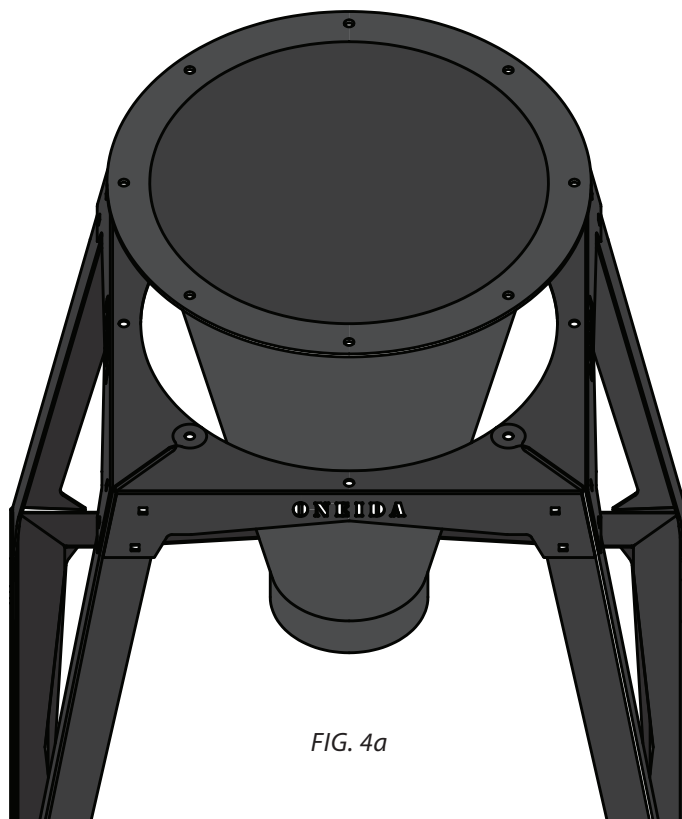
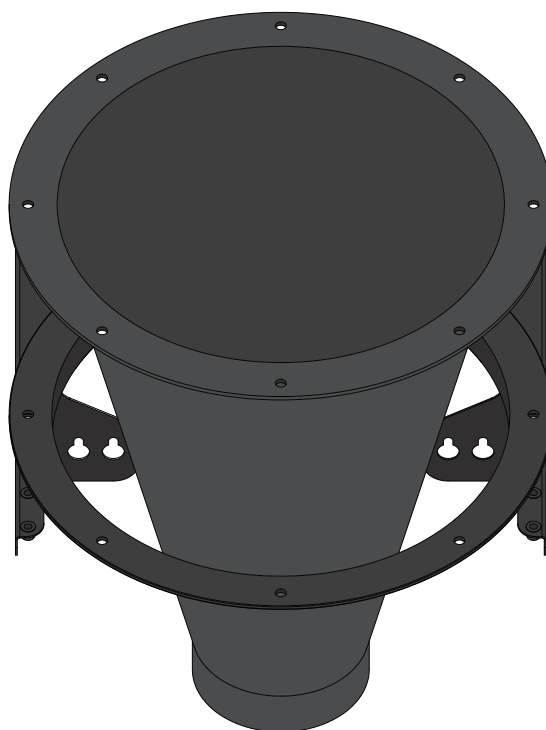

FIG. 4a
FIG. 4b
- 4 Lift the Cone (D) onto the supplied support, making sure to align the Cone's flange holes with those on the Stand [FIG 4a] or Wall Bracket [FIG 4b].